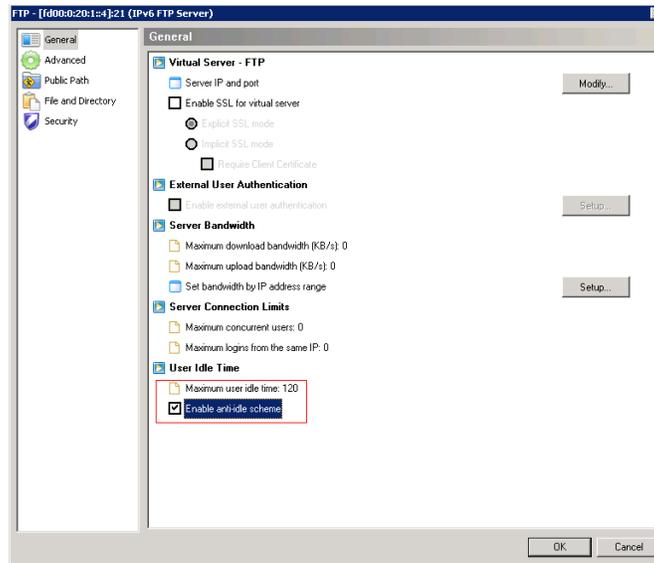

Figure 2-14: Enable Anti-idle Scheme Option
- Under the *General* tab, change the "Maximum idle time" parameter to **120** and select the **Enable the anti-idle scheme** option, as shown in Figure 2-14.